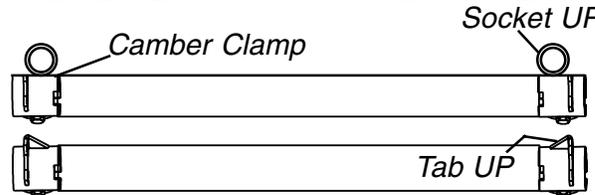

FIGURE 14 - REPOSITIONING THE AXLE TUBE
## REPOSITIONING THE AXLE TUBE (FIGURES 14 AND 15)
3. Remove the camber inserts from the wheelchair (FIGURE 14).
7. Perform one (1) of the following:
*NOTE: The camber clamps should now be inverted, as shown in DETAIL "A" of FIGURE 14.*
\* NOTE: When viewed from the front of the wheelchair, inside of the rear wheels, an inverted camber clamp has the tab or anti-tipper socket at the top of the axle tube. Refer to DETAIL "A" of FIGURE 14.